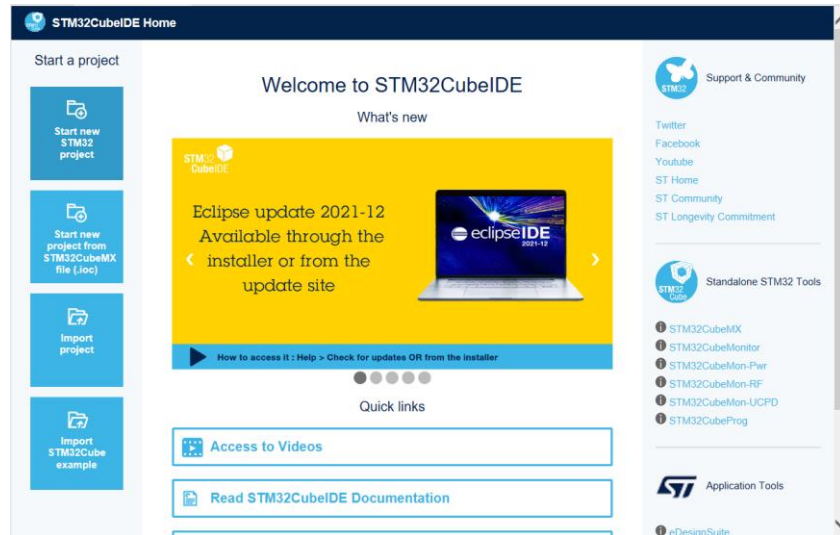

Figure 7 – STM32CubeIDE initial interface
These examples are prepared to be used with either the **AC6 System Workbench** [ref07] or the **STM32CubeIDE** [ref01]. Both programs are based on the Eclipse IDE, are free to download at the referenced locations and only require user pre-registration on the company websites. The STM32CubeIDE has much more frequent updates and includes as mentioned the graphical CubeMX32 configurator if required. The initial interface for this program is shown in Figure 7. The examples can be downloaded directly as .zip or by cloning the repo at <https://github.com/LyRIng/CL3board> [ref11] to a directory in your local machine.